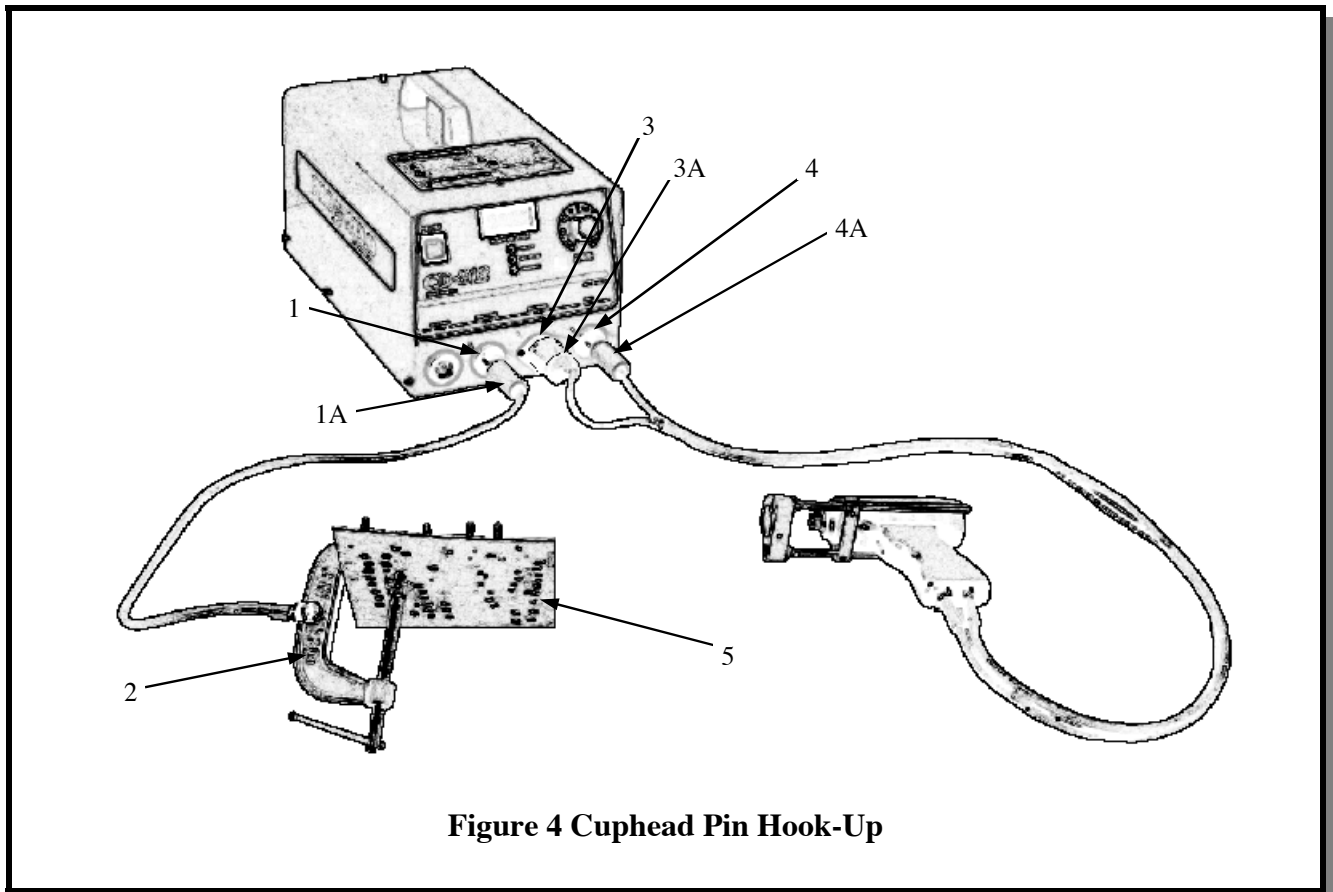

Figure 4 Cuphead Pin Hook-Up
9.3 Cuphead and Power Point pin hook-up (see Figure 4)
A. Connect ground cable connector (1A) into camlok (1). The camlok should be connected into the receptacle marked CUPHEAD. Twist until it locks. Attach “C” clamp (2) to the workpiece (5) (CLEANED AREA).
B. Connect the gun control cable (3A) into the female receptacle (3).
C. Connect the gun weld cable (4A) into the receptacle marked GUN (4). Twist clockwise until it locks.
(see Figure 4)